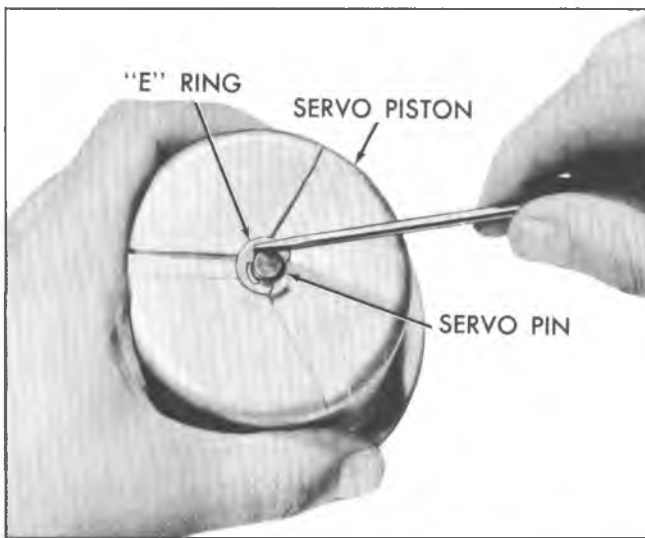

Fig. 51T--Removing Retaining "E" Ring from Rear Servo Pin
2. Remove "E" ring retaining rear servo piston to servo pin (fig. 51T).